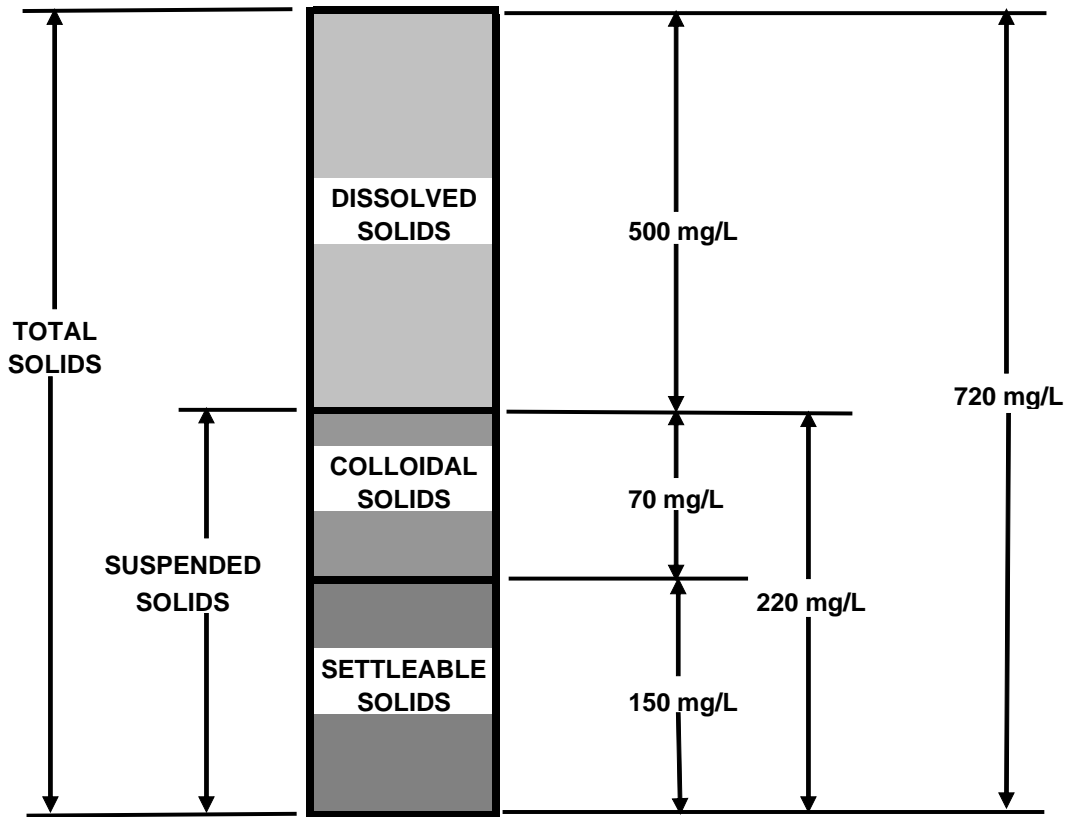

Figure 2.1 Typical solids concentrations in raw wastewater.
- Suspended solids include both **nonsettleable** (shown in Figure 2.1 above as **colloidal solids**) and settleable materials.
- Total solids concentration in Figure 2.1 is 720mg/L.
- Dissolved solids concentration in Figure 2.1 is 500mg/L.
- Suspended solids concentration in Figure 2.1 is 220 mg/L.
- Nonsettleable solids concentration in Figure 2.1 is 70 mg/L